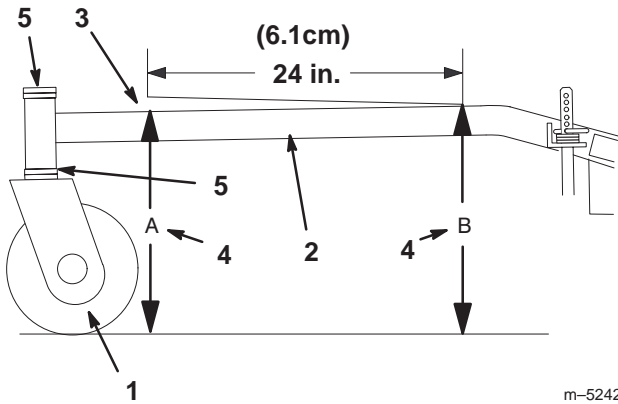

Figure 50
The carrier frame must have a pitch of a 1/4 in. (6 mm) over the length of 24 inches (6.1 cm) on the carrier frame (Fig. 50).
1. Measure out 24 inches (6.1 cm) on the carrier frame (Fig. 50).
2. Measure carrier frame height at location **A** (Fig. 50).
3. Measure carrier frame height at location **B** (Fig. 50).
4. The height at location **A** must be a 1/4–3/8 in. (6 mm – 10 mm) lower than location **B** (Fig. 50).
5. If the carrier frame is not correct, move caster spacers to make it a 1/4–3/8 in. (6 mm – 10 mm) pitch (Fig. 50). Move spacers from top or bottom to make the correct pitch.